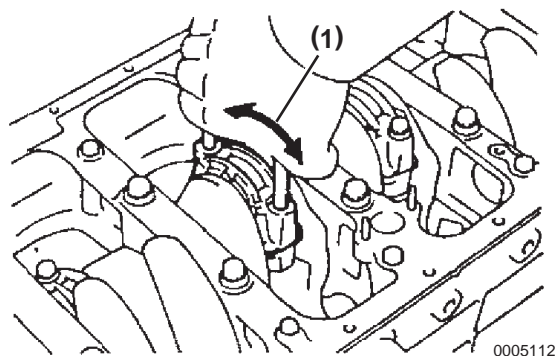

Figure 5-82
5. Move the connecting rod cap transversely **(Figure 5-82, (1))** using two removed connecting rod cap bolts, to remove the connecting rod cap.